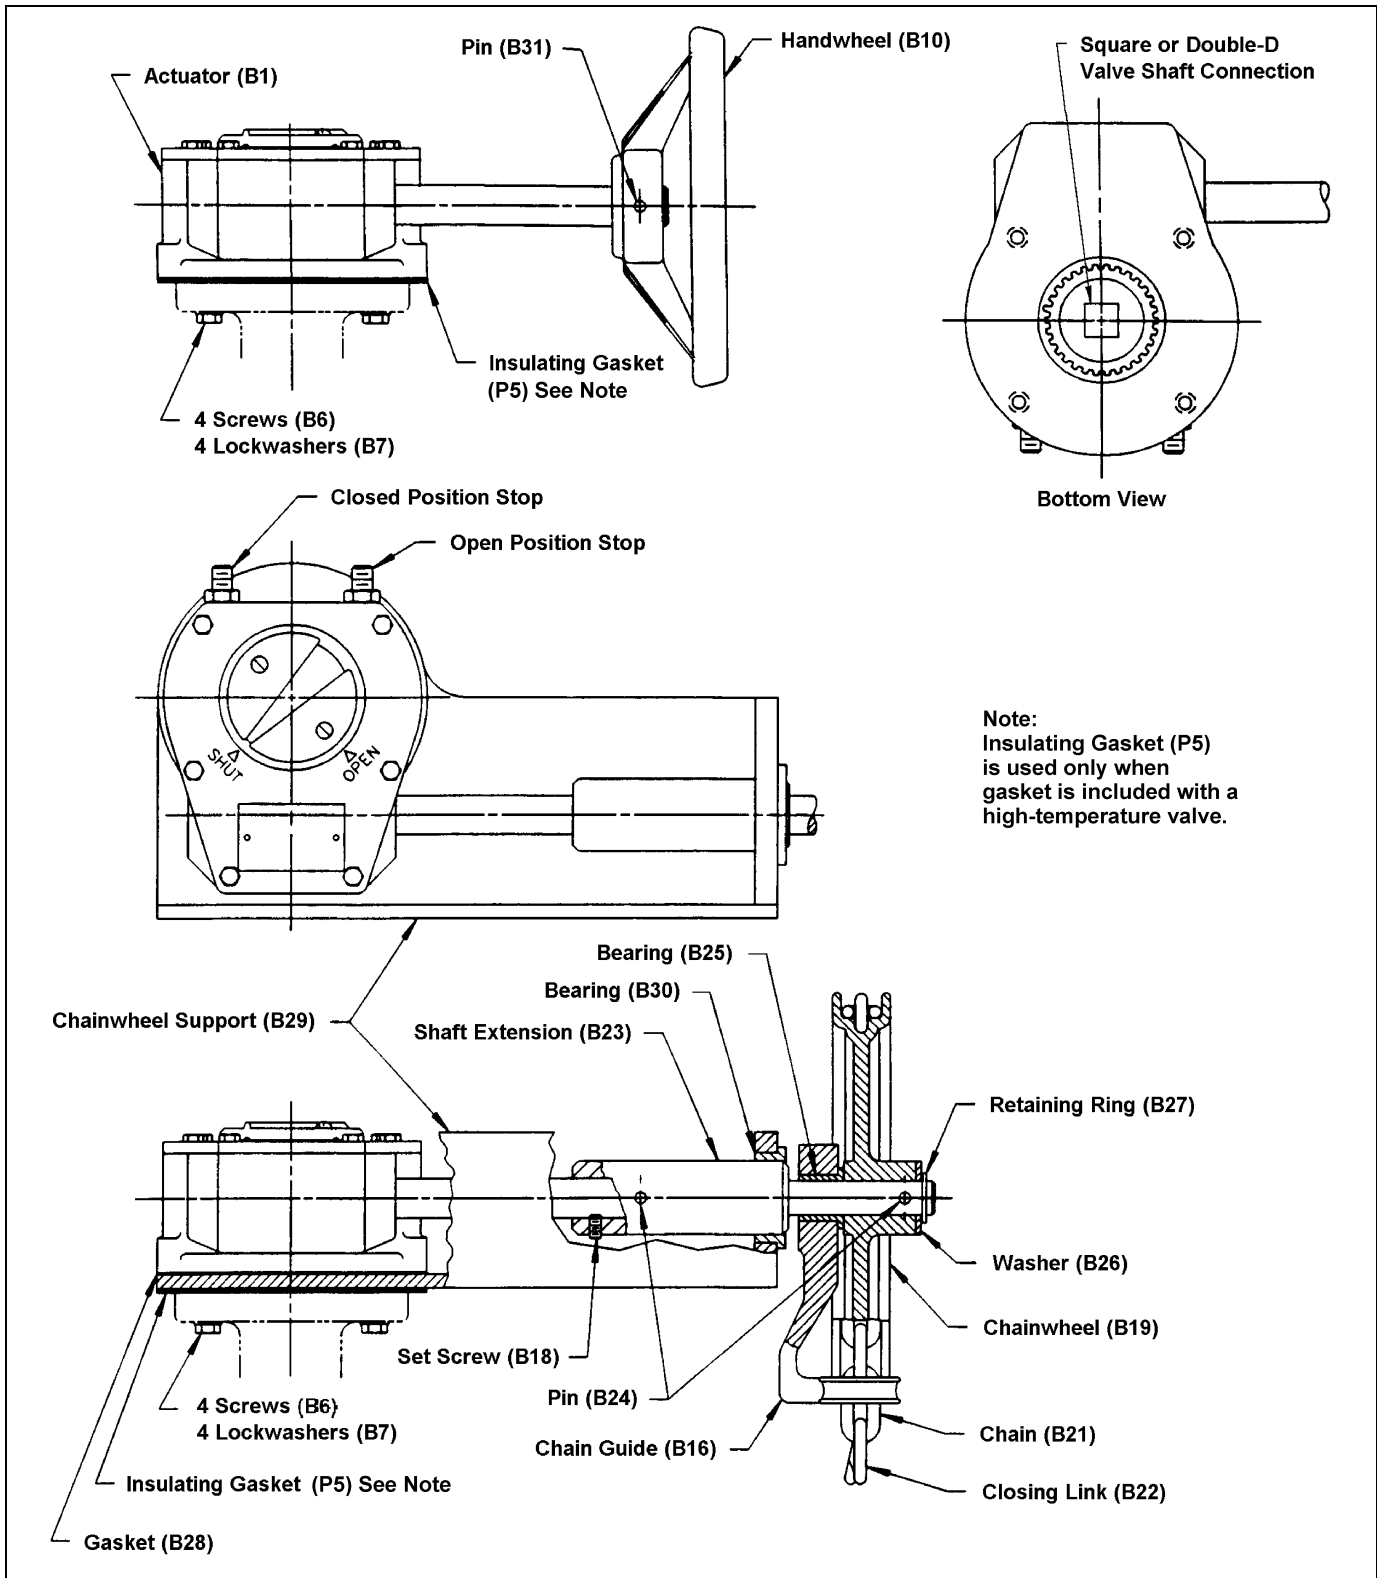

Figure 1—Component Identification
If the actuator is not factory mounted on the valve, or if the actuator has been removed, the stops will require adjustment as described below. Refer to Figure 1 for component identification; also refer to the Valve Instructions for specific closed-position requirements for the valve.
Refer to Figure 1 for component identification.
2. Some actuators include a splined drive bushing (B2) as indicated in Figure 1. If the actuator includes a bushing, but the bushing has come out of the actuator, note that one large tooth in the bushing is marked with an arrow. Place the bushing in the actuator so that the large tooth is engaged with the deep V-shaped groove in the actuator.
The handwheel may be replaced with a chainwheel by following the steps below. Refer to Figure 1 for component identification.
5. Some actuators include a splined drive bushing (B2) as indicated in Figure 1. If the actuator includes a bushing, but the bushing has come out of the actuator, note that one large tooth in the bushing is marked with an arrow. Place the bushing in the actuator so that the large tooth is engaged with the deep V-shaped groove in the actuator.
The chainwheel may be replaced with a handwheel by following the steps below. Refer to Figure 1 for component identification.